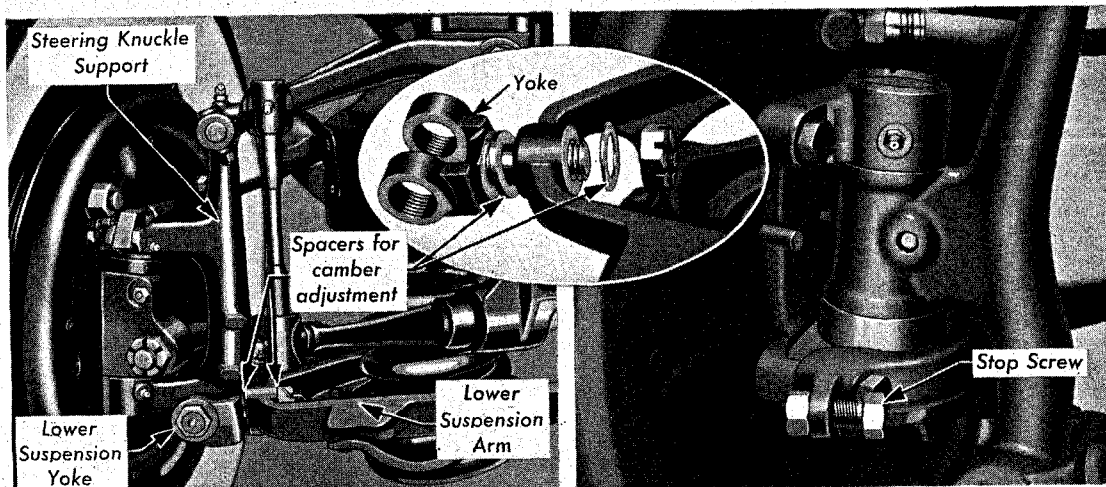

Fig. 12 Camber Adjustment—Series 37-90
2. Remove steering knuckle support yoke and reinstall with spacers arranged so as to secure the correct camber, as shown in Plate 10, Fig. 12.